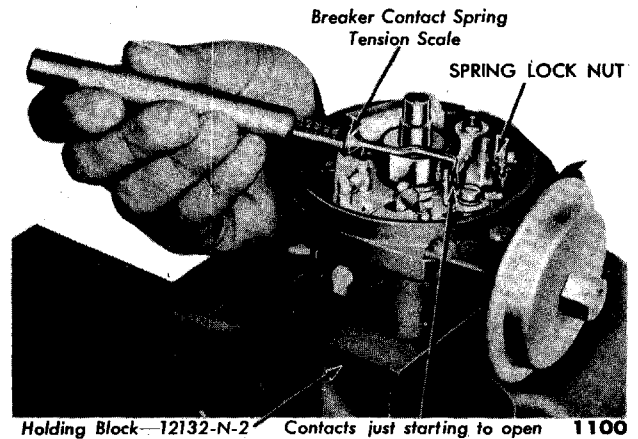

Fig. 13—Checking Breaker Arm Spring Tension
(3) **CHECKING SPRING TENSION.** Place the tension gauge as near as possible to the distributor points and push at right angle (90°) until the points just open (fig. 13). Read the spring tension and adjust if outside specifications (17-20 ozs.).